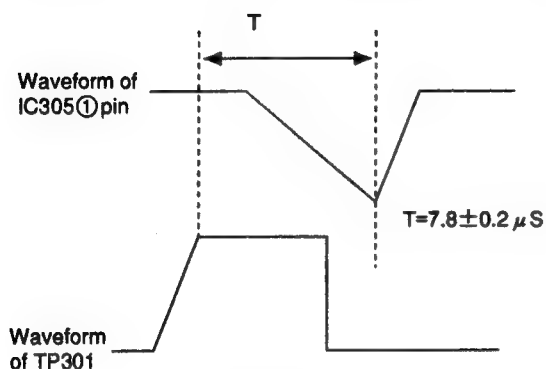

Fig. 5-15
2. Connect the probe of an oscilloscope to TP301 (COMP-SYNC) and Q363 (E) or IC305 ① PIN. (Exercise care since IC305 (1) PIN is a high-impedance line.)
4. Adjust **[BGP WIDTH]** so that the output waveforms will be as shown in Fig. 5-15.